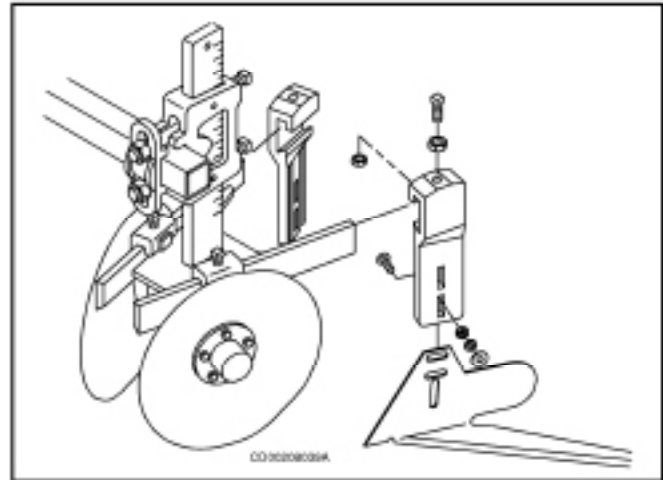

Figure 51 Dual Knife Assembly
1. Fasten the knife to the adapter, using two 3/8 x 1-1/2" carriage bolts, flat washers, lock washers, and hex nuts as shown in Figure 51. Knife must go on inside of adapter.